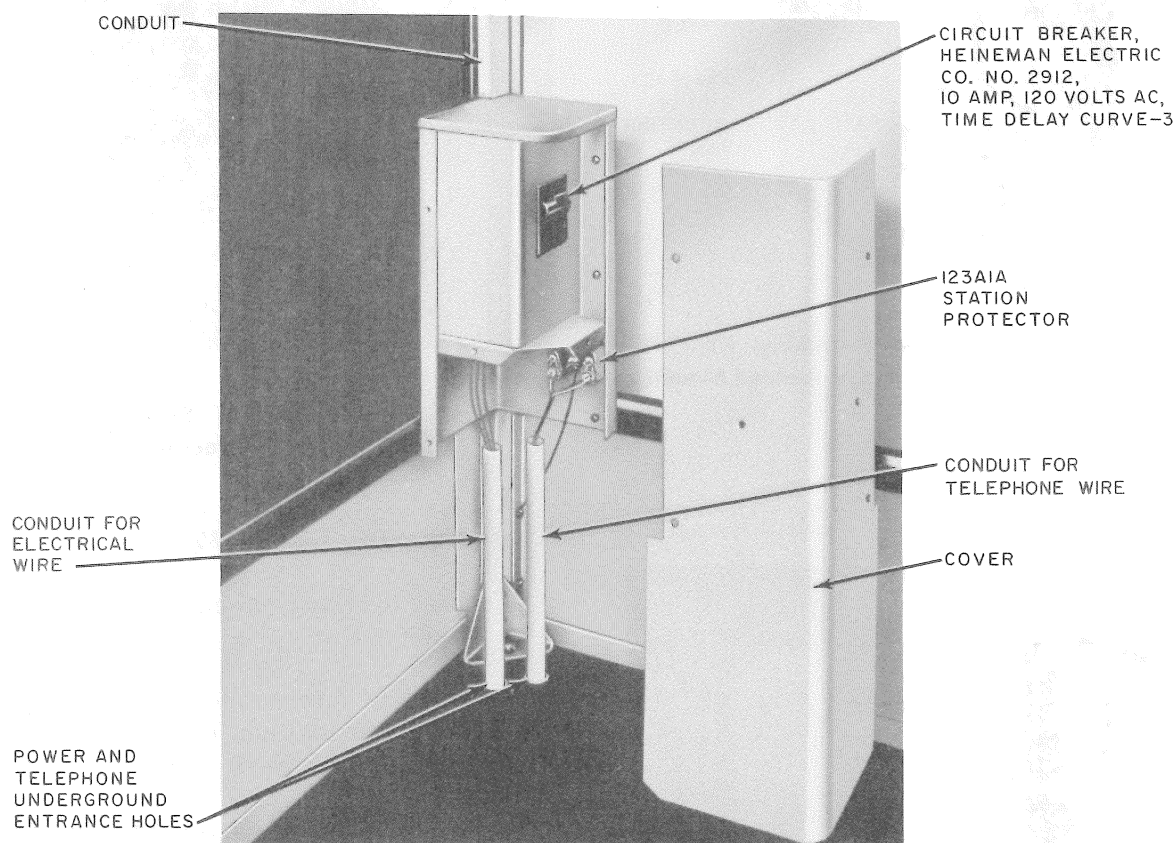

Fig. 8—Circuit Breaker and Associated Apparatus
of the booth (Fig. 8). It is used for underground or ground level power and telephone wire entrances. The kit includes two power leads and a divided rectangular conduit for enclosing wire from junction box to ceiling.
- (b) Through metallic conduit (Fig. 8) to holes provided in the left rear corner of the booth floor (for underground entrance).